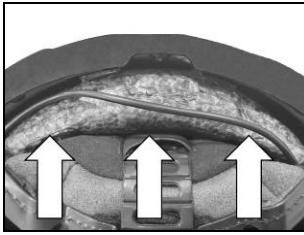

Fig. 21
- Position the wiring in the rear part of the helmet (Fig. 21).